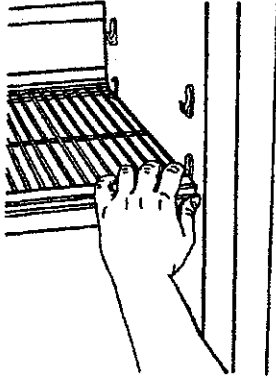

Figure 72
- a. Remove shelf by gently pulling on right side wall snap-lock tabs to release. Lift right side of shelf. See Figure 72.